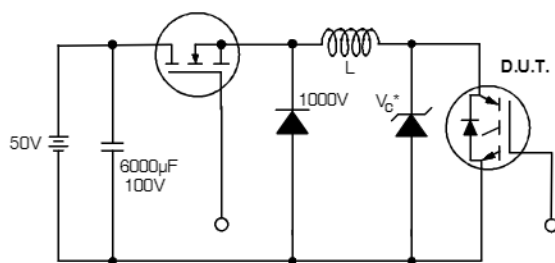

Figure 19. Clamped Inductive Load Test Circuit
- ② $V_{CG} = 80\%(V_{CES})$, $V_{GE} = 20V$, $L = 10\mu H$, $R_G = 100\Omega$, (See fig. 19).
- ③ Pulse width $\leq 80\mu s$; duty factor $\leq 0.1\%$.
- ④ Pulse width $5.0\mu s$, single shot.